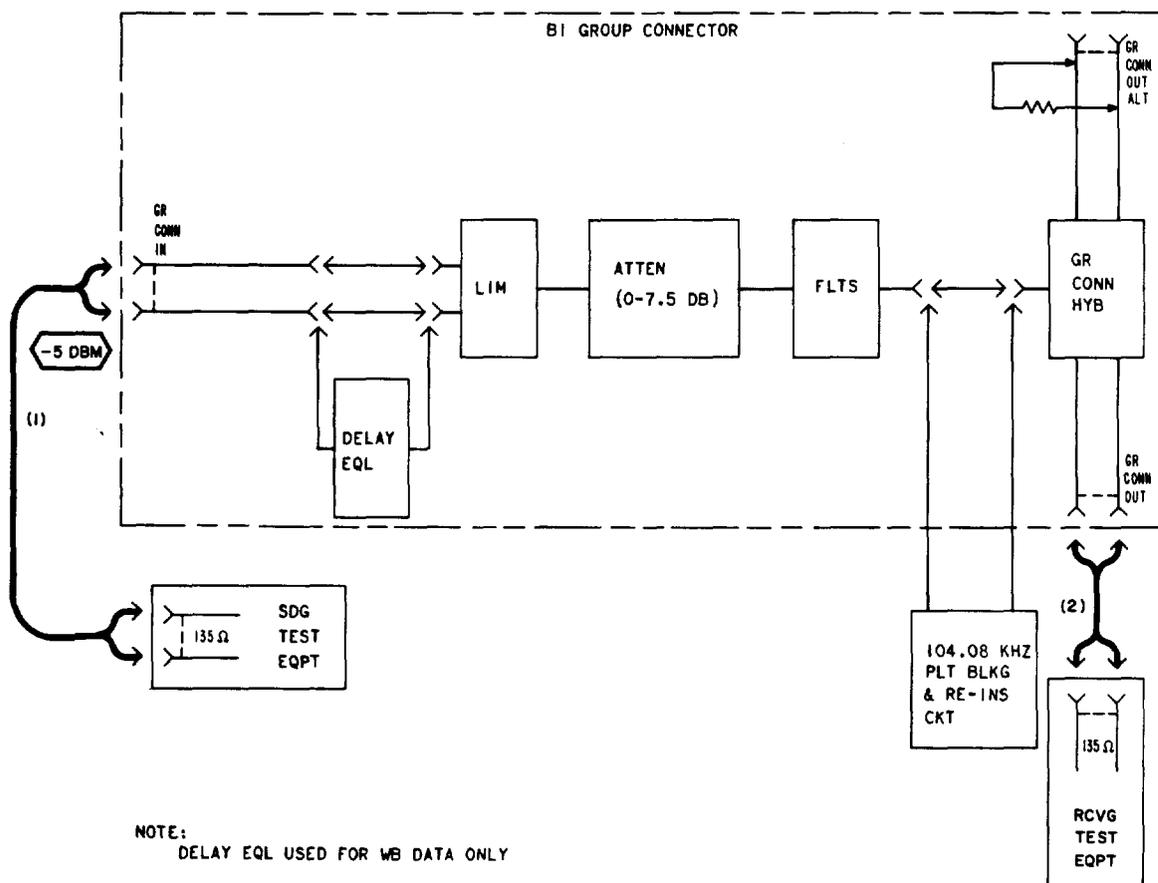

Fig. 5—B1 Group Connector—Out-Of-Service Loss Adjustment
7	Connect the STE to the GR CONN IN jack [patch (1), Fig. 5].
8	Connect the RTE to the GR CONN OUT jack [patch (2), Fig. 5].
19	Disconnect the STE from the GR CONN IN jack [patch (1), Fig. 5].
23	Remove patches (1) and (2) in Fig. 5.